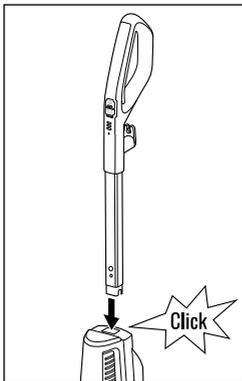

Fig. 1
- ◆ Slide the hand element **1** into the opening on the top of the appliance until the hand element **1** clicks into the opening (see fig. 1).